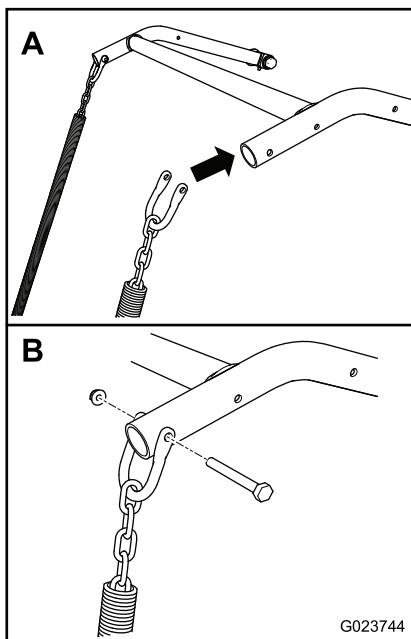

Figure 12
3. Align each shackle to the appropriate side of the attachment lift on the machine (Figure 12).